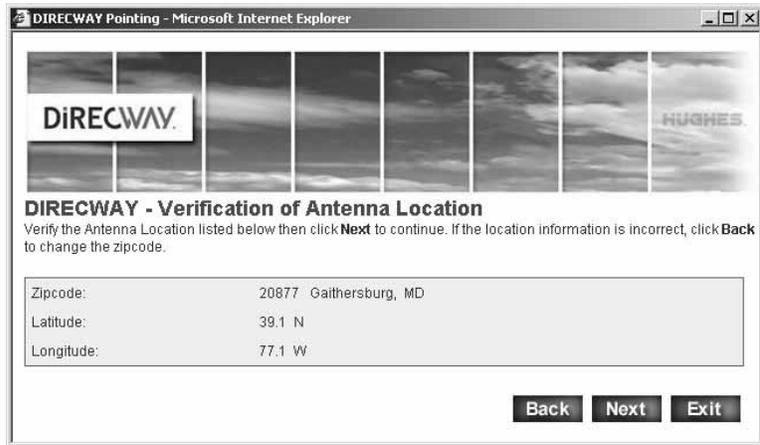

Figure 21: Verifying antenna location
5. Verify the information displayed on the Verification of Antenna Location screen shown in Figure 21 is correct.